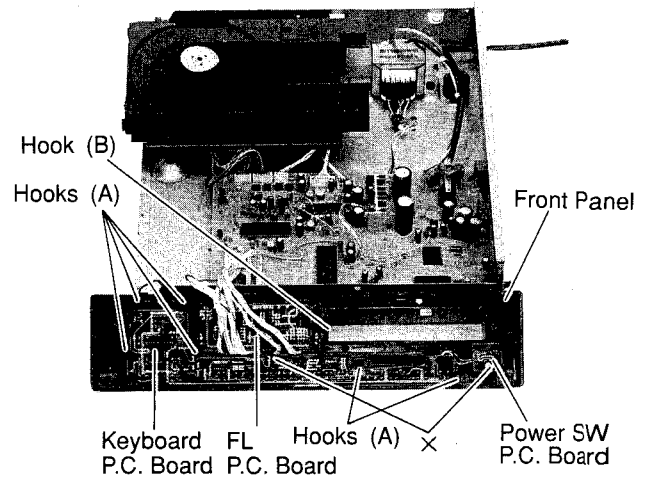

Figure 4
- (3) Remove six hooks (A) as shown in Figure 4.
- (4) Removed with Keyboard P.C.Board and Power SW P.C.Board.
- (2) Remove a hook (B) as shown in Figure 4.